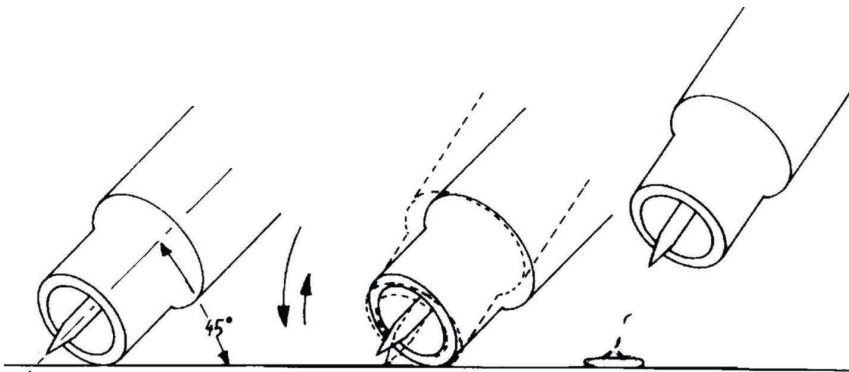

Figure 3
- Open the gas valve on the torch handle, allowing gas to flow from the torch nozzle. Cover your face with the head shield, bring the torch to within 3-4mm of the work, and at an angle of 45 °, so that the ceramic nozzle gently touches the work surface. (Fig.3). Scratch the tip of the electrode until an arc develops, quickly withdraw the electrode and maintaining a gap of approx. 3-4 mm proceed to weld. To stop welding, simply remove the torch from the work piece.